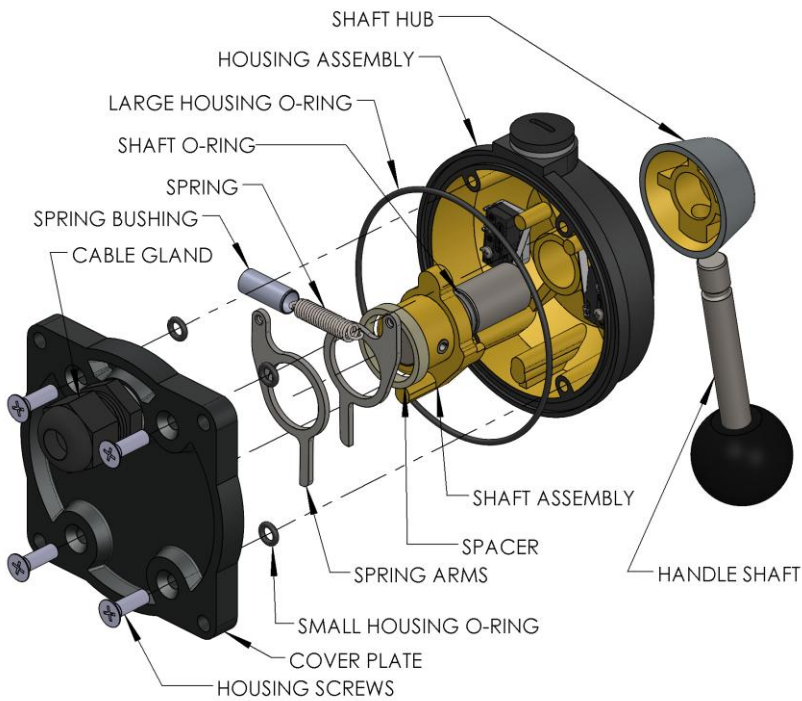

Figure 10: 7170 Parts Diagram for Maintenance
12. Reassemble unit as shown in Figure 10.